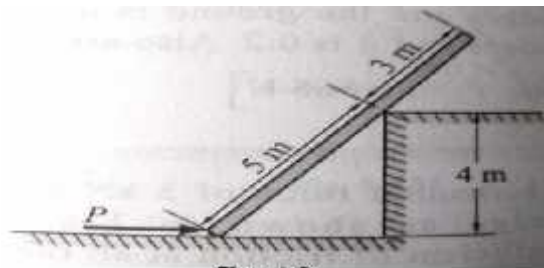

fig:12
12. A uniform bar has a mass of 35 Kg as shown in fig:12. What rightwards force P is needed to start the bar moving to the right. $\mu = 0.3$